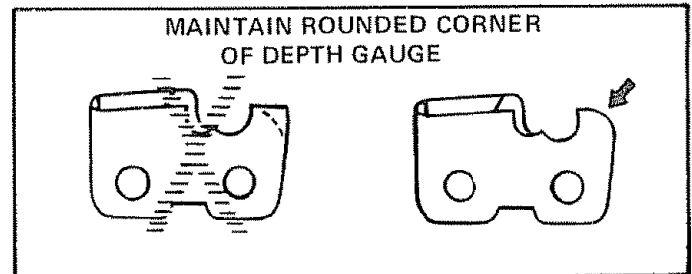

Figure 40
- c) Maintain rounded front corner of depth gauge with a flat file. Figure 40.